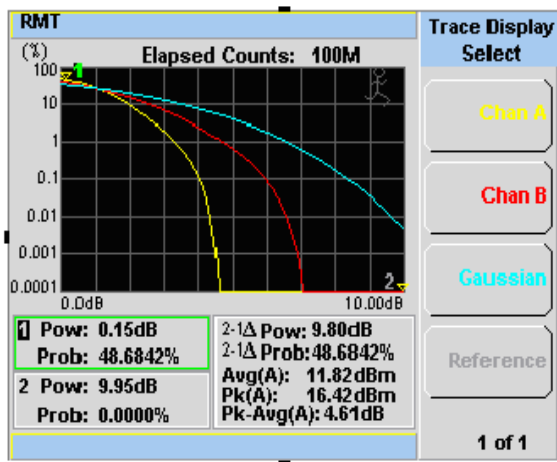

Figure 9-4 Trace Display Select control menu
- Press **Trace Control** , **Trace Display** and select the trace that you wish to display. The trace which is not selected is grayed out, as in Figure 9-4.